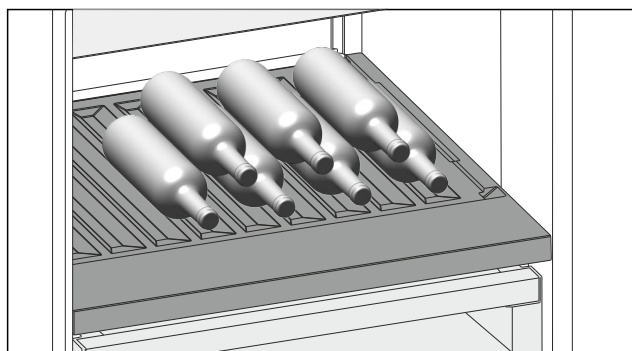

Fig. 111
- Place bottles in the back row with their bases against the back wall. (see Fig. 111)